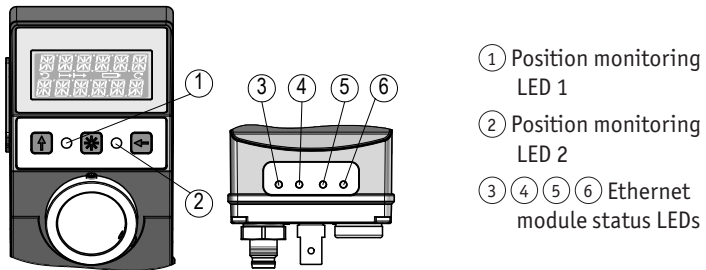

Fig. 6: Operating elements
The LEDs ③ ④ ⑤ ⑥ (see Fig. 6) inform about the status of the Ethernet module. For a description of the functions of the module status LEDs refer to the relevant user manual.